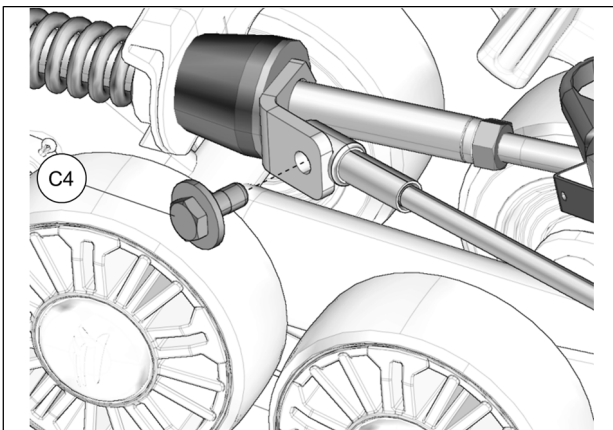

Fig. 24
14. Reverse steering wheel a little to be able to bolt support plate and cable together. Tighten provided bolt (C4) to 35 N•m [24 lb•ft]. See Fig. 24. Repeat steps on right side.